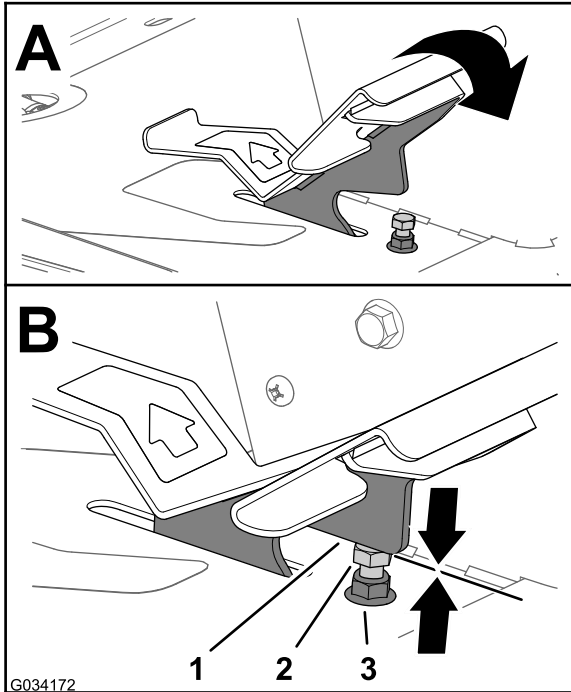
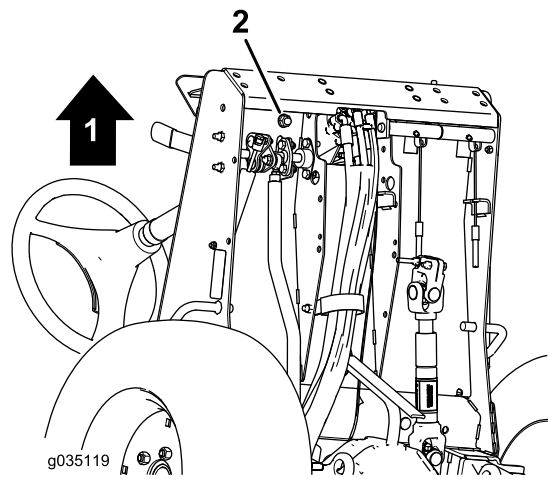

Figure 75
Figure 76
1. Move the traction pedal fully forward (Figure 75).
- A. Hold the traction-pedal stop (Figure 75) with a wrench.
- B. Loosen the jam nut at the bottom of the footrest plate (Figure 76).
- C. Move the traction pedal to the full forward position (Figure 75).
- D. While holding the traction-pedal stop, adjust the jam nut that is above the footrest plate (Figure 75) until the traction pedal makes contact with the stop.
- F. While holding the traction-pedal stop, torque the jam nut at the bottom of the footrest plate (Figure 75 and Figure 76) to 37 to 45 N·m (27 to 33 ft·lb).